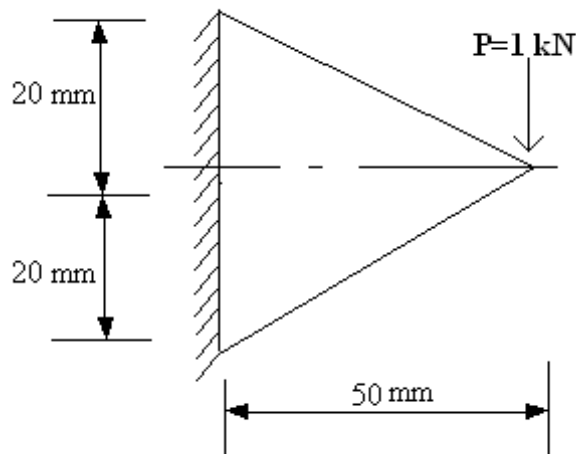

Figure 4
4. A triangular plate is subjected to a transverse load of 1kN as shown in figure 4. Find the transverse displacement and the stresses induced in the plate using one element idealization. Assume $E = 205 \text{ Gpa}$. Poisson's ratio $\mu = 0.33$ and thickness $t = 10 \text{ mm}$. [16]